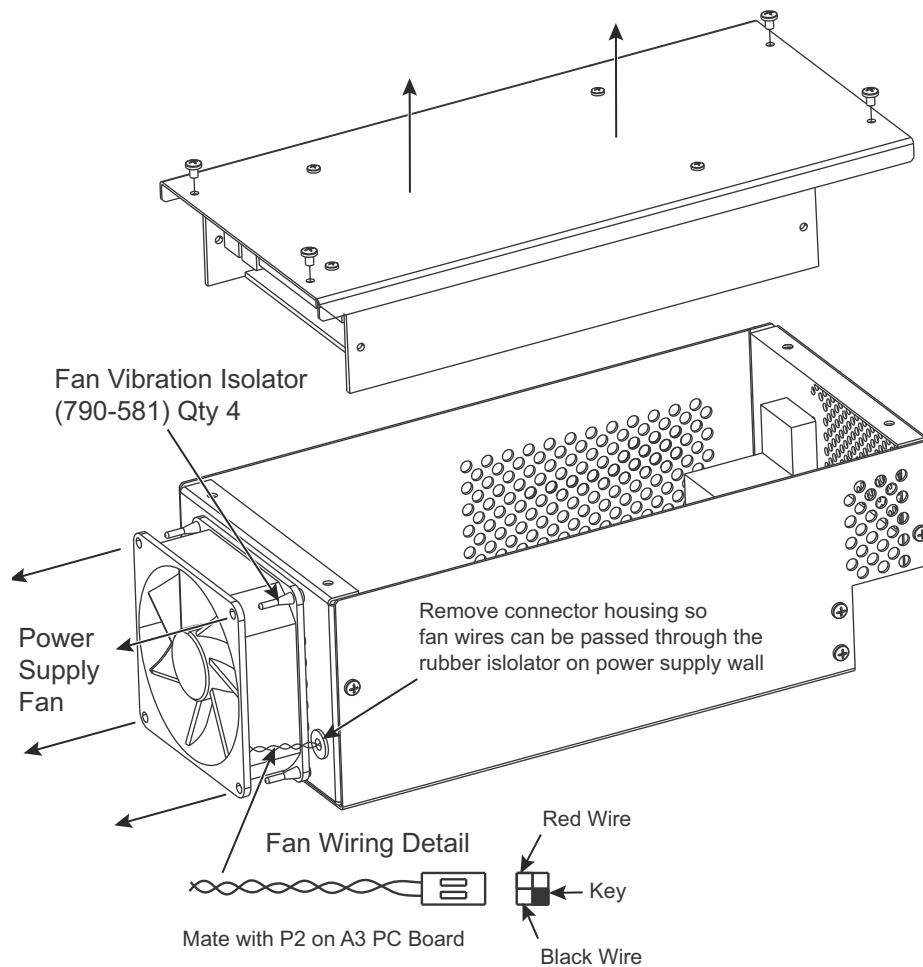

Figure 6-12. Power Supply Cooling Fan Replacement
2. On the power supply cover, remove the 4 screws closest to the corners. See Figure 6-12 on page 6-21.
11. After the new fan wires are pulled into the power supply housing, reassemble the pins to the connector housing to the wires according to Figure 6-12.